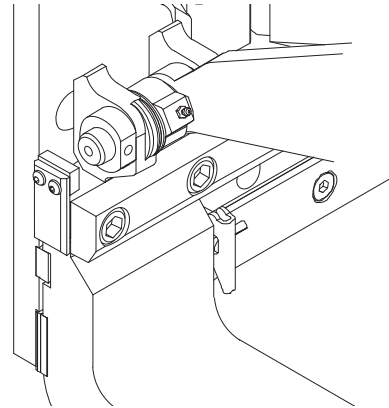

Figure 23, Hook installation
5. Adjust the forks so that both tips are no more than .25" in height difference. (Figure 23)